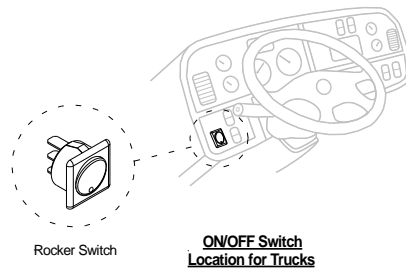

Fig. 28
1. Turn Power Switch On (If applicable): To activate power to the liftgate, turn the cab shutoff switch, **Fig.28.**